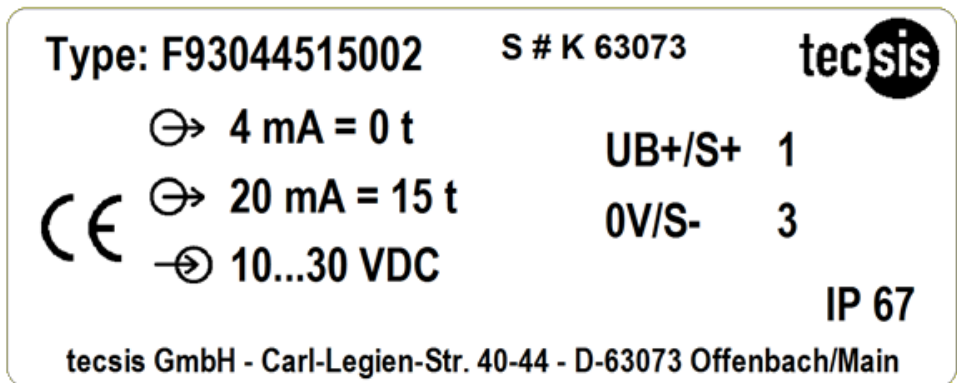

Fig. 1: Name plate – 1 x connecting plug – standard output signal
- The output signal is noted on the name plate (Fig. 1). This output signal is a guide value. The output signal depends on the cable diameter and whose characteristics.
The plug or cable connection assignments can be found on the name plate (Fig. 1). Unless otherwise agreed, the following assignments are used as standard.